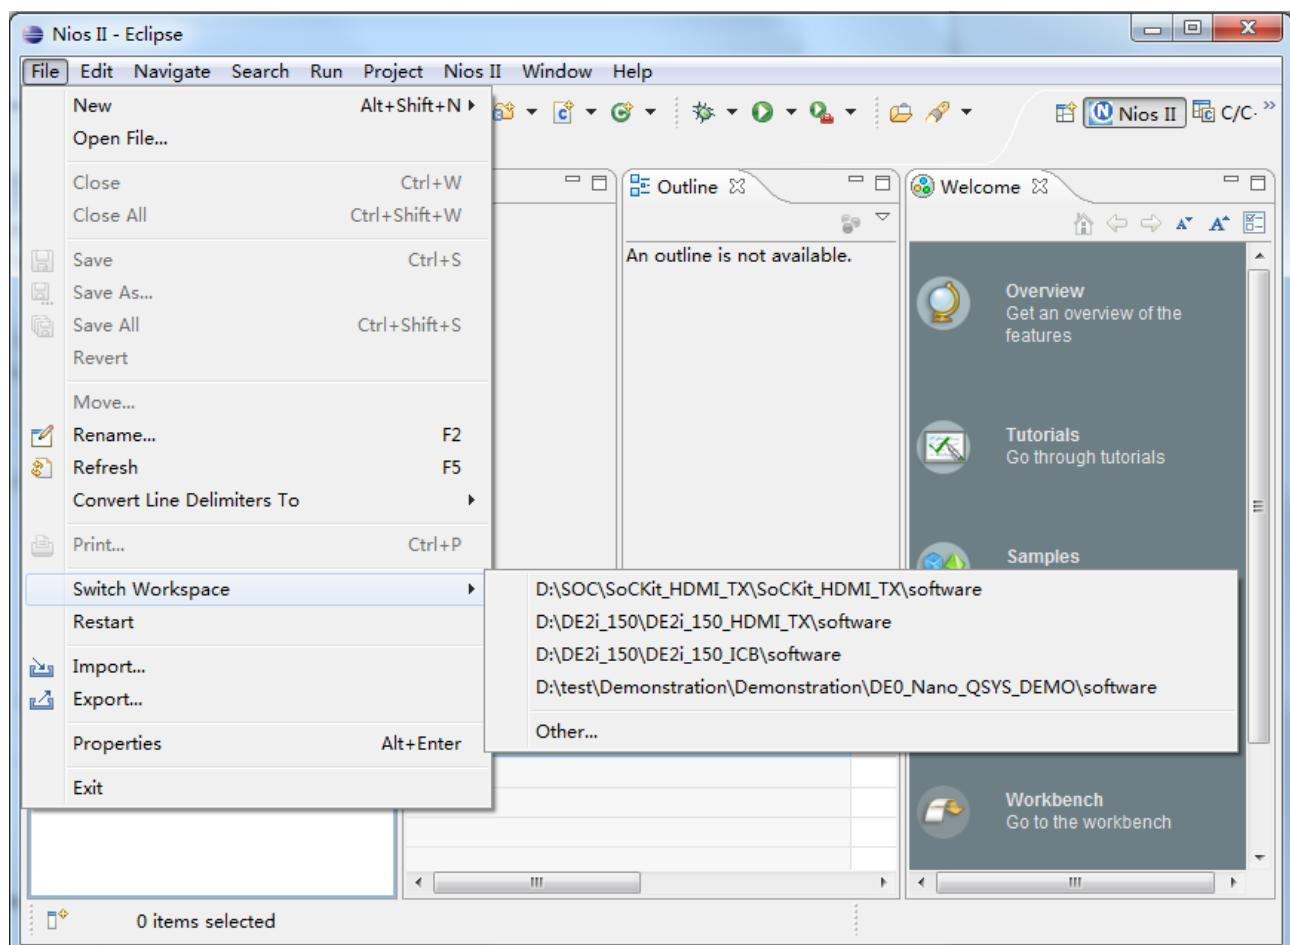
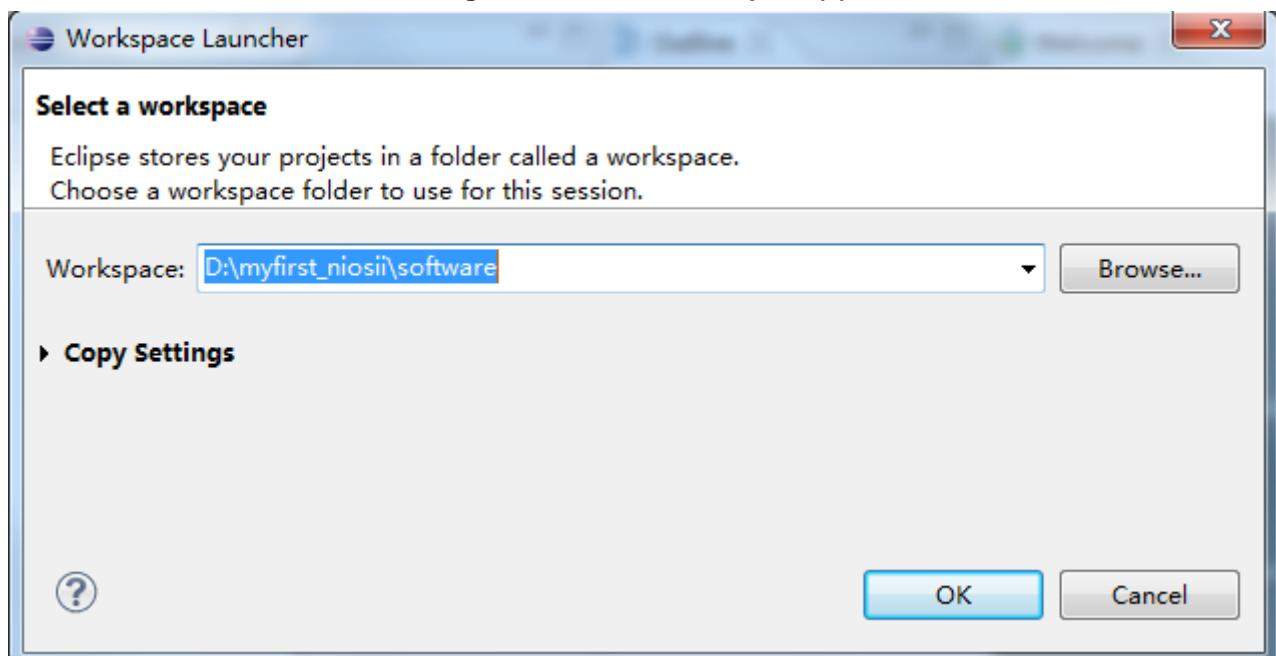

Figure 2-1 Switch Workspace (1)
Figure 2-2 Switch Workspace (2)
2. Choose File > Switch Workspace to switch workspace. See Figure 2-1 and Figure 2-2.